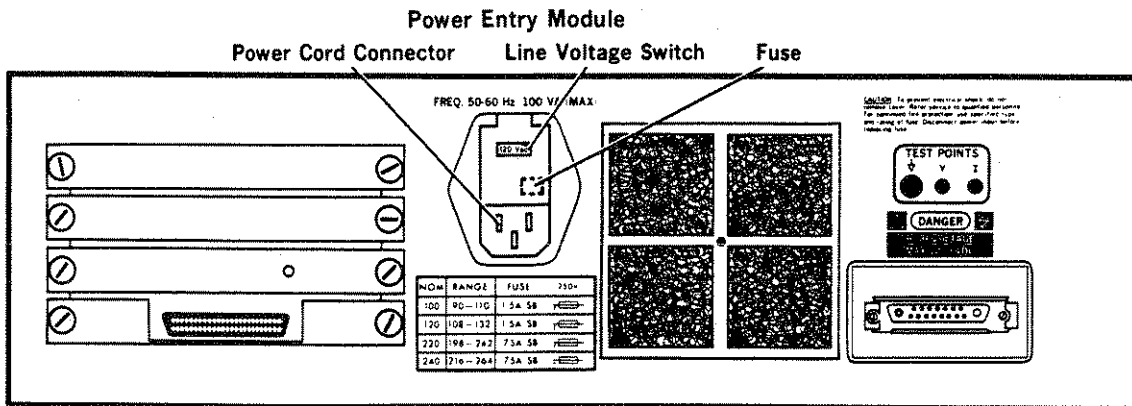

Figure 7-1. Location of Power Entry Module
STEP 1. Locate the power entry module that is found on the rear panel of the instrument. Remove the power cord from the connector on this module. Refer to Figure 7-1.